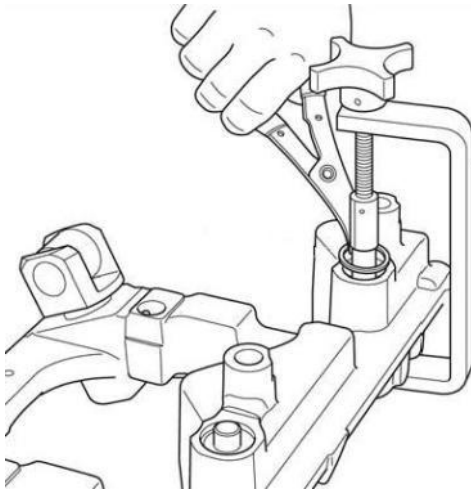

Fig 27
- Using retaining ring pliers remove the retaining ring (*Fig 27*). Back out the holder until the springs are loose, remove the tool.